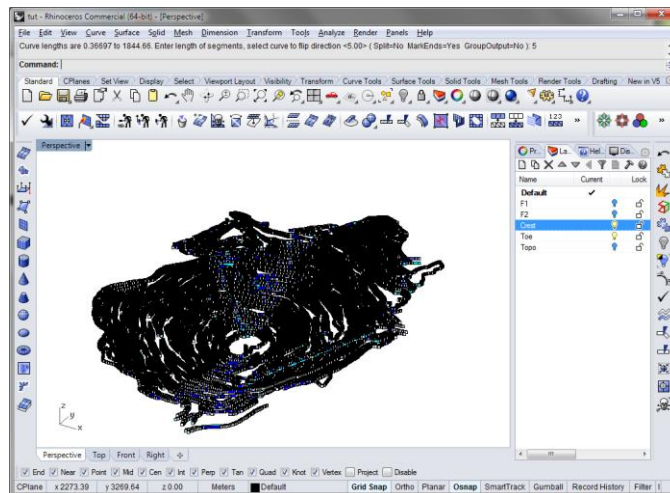

Figure 140: Points spaced 5 m apart.
2. Hit **<ENTER>** to complete the creation of points every 5 meters on the selected curves (Figure 140).